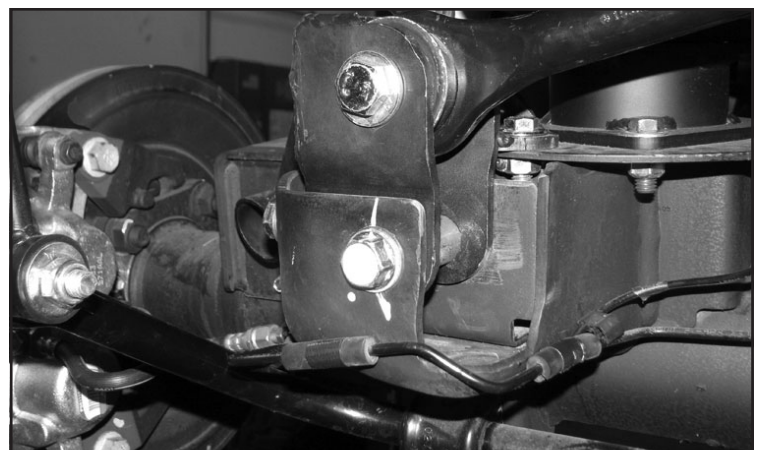

FIGURE 69 - STEP 62
62. Locate the supplied 9/16"-18 x 4" bolt, nut and washers and install the rear track bar into the new location. Torque to 184 ft-lbs. **SEE FIGURE 69**